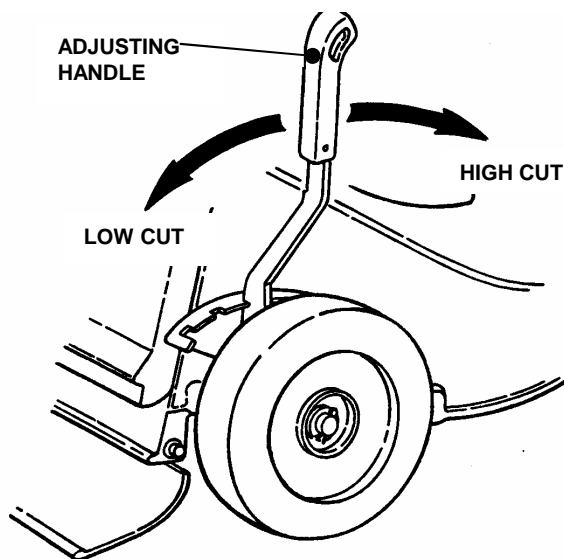

FIGURE 2.6
1. Pull the cutting height adjusting handle outward and move to desired cutting height. See Figure 2.6.